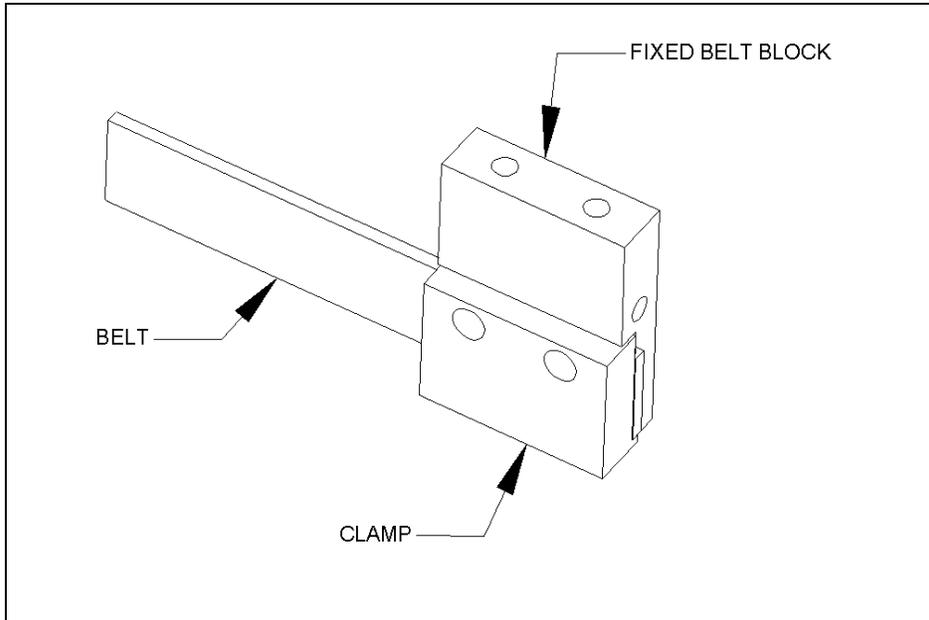

Figure 7-25 Placing the Adjustable Belt Block on the Idler End of the Drive Belt
- 3 Fit the Adjustable Belt Block (Part No. 204003400) and the Belt Clamp (Part No. 204012400) to the idler end of the belt using two M3 x 8 Cap Head Screws and Loctite 222 (Figure 7-25). Ensure that the belt covers all three teeth in the belt block.